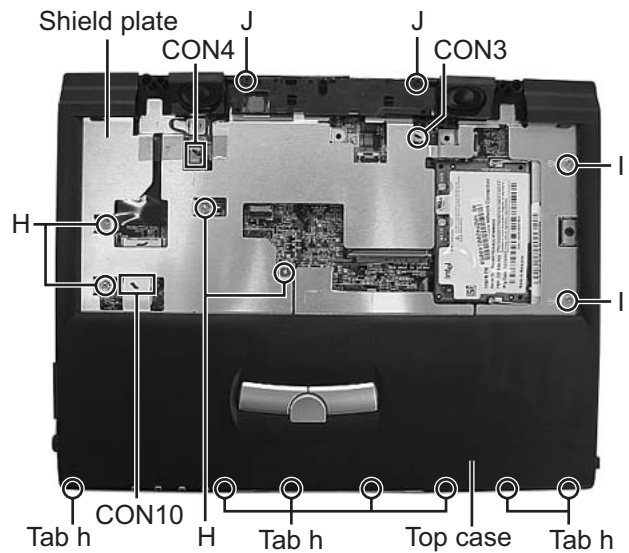

Fig.12
3.1.7 Removing the top case(See Figure 12 and Figure 13)